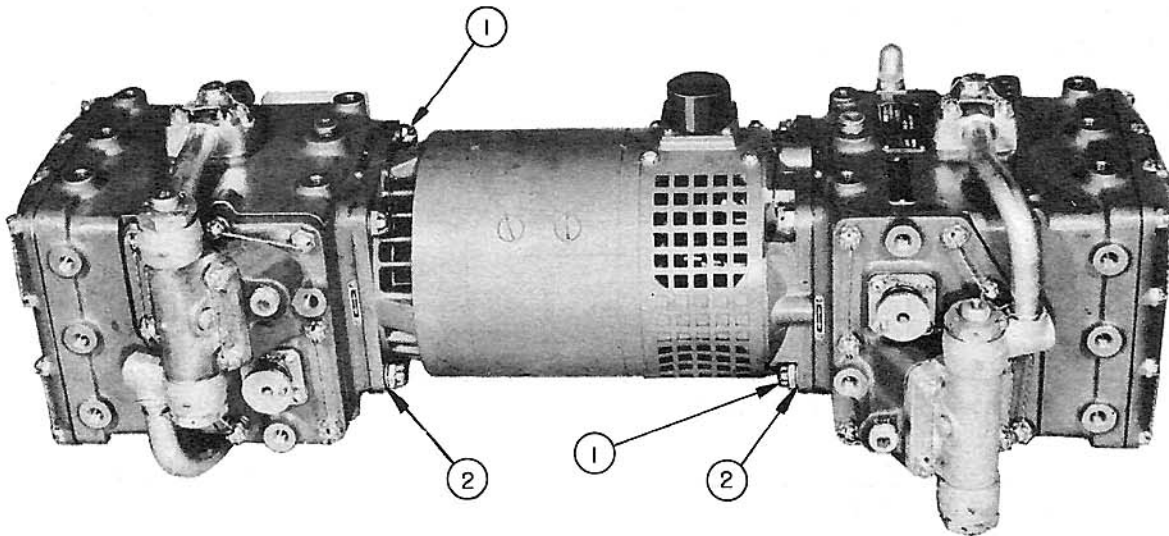

FIGURE 20
(a) Main Components (See Figure 20.) - 1. Remove the 4 nuts (1) which attach each variable speed transmission to the electric motor. The Double Power Unit can then be separated into its main sub-assemblies. Detailed disassembly instructions for the variable speed transmissions are given in the following paragraphs. No further disassembly of the electric motor is covered herein, since this unit is a common type of direct current, shunt wound motor and should be handled in accordance with the accepted practices for this type of electrical equipment.